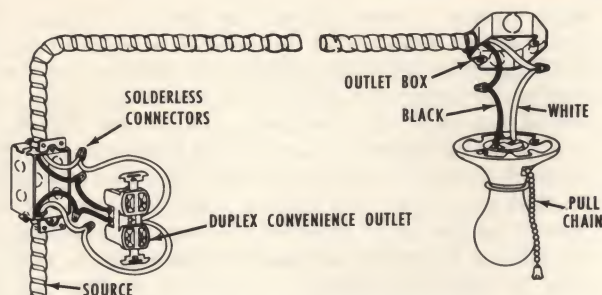
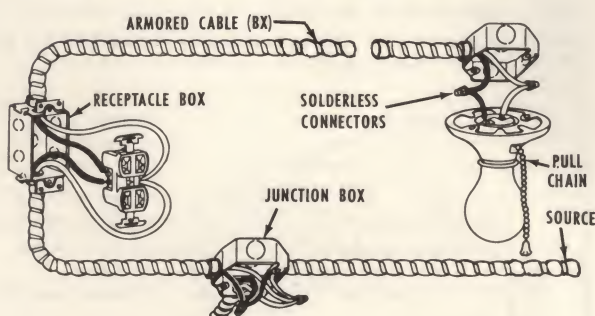

FIG. 46—PLUG-IN OUTLET ON EXISTING RUN
FIG. 49—OUTLET AND LIGHT ADDED FROM JUNCTION BOX
**INSTALLATION IN MIDDLE OF EXISTING RUN.** Plug-in outlets are easy to install. Select outlet location and prepare opening for the outlet box. Next, tap into existing run with the use of short lengths of wire and screw on solderless connectors as shown in Fig. 46. Connect white wires to light-colored terminals of the receptacle and black wires to dark-colored terminals on the opposite side. Notice in illustration that receptacle will always be "on" as pull-chain will operate light only.
**ADDING A PLUG-IN OUTLET AND PULL-CHAIN LIGHT.** Fig. 49 shows how installation can be made when the junction box is under floor (as in basement below) and outlet is to be located on floor above. Use 2-wire non-metallic sheathed or armored cable, or conduit with 2 wires. Remove the cover of junction box as shown. At plug-in outlet, connect black wire to brass-colored terminals and white wire to silver-colored terminal. Connections from receptacle for pull-chain light are the same as for installation in Fig. 46. **NOTE:** Pull-chain operates light only; plug-in outlet is always "on".